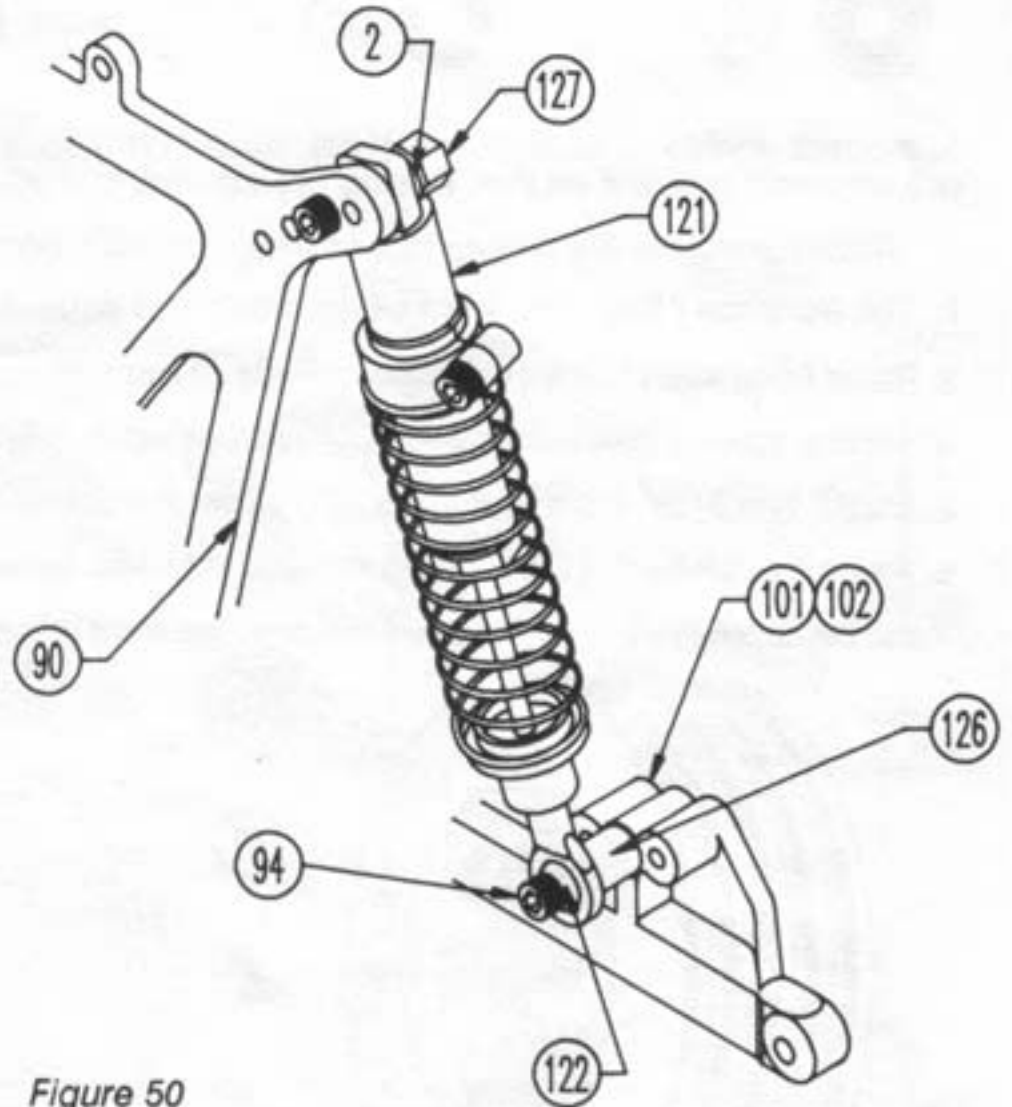

Figure 50
19. For the rear shocks, thread a 4-40 x 5/8" cap head screw (94) through a 1/4" shock mount ball (122), small H-arm spacer (126) and into the middle hole on the H-arm (101), (102). Fig. 50
20. Attach top of shock body (121) to shock mount (2) on rear shock tower (90). Fig. 50
21. Secure top of shock with a 4-40 nylon nut (127). Fig. 50